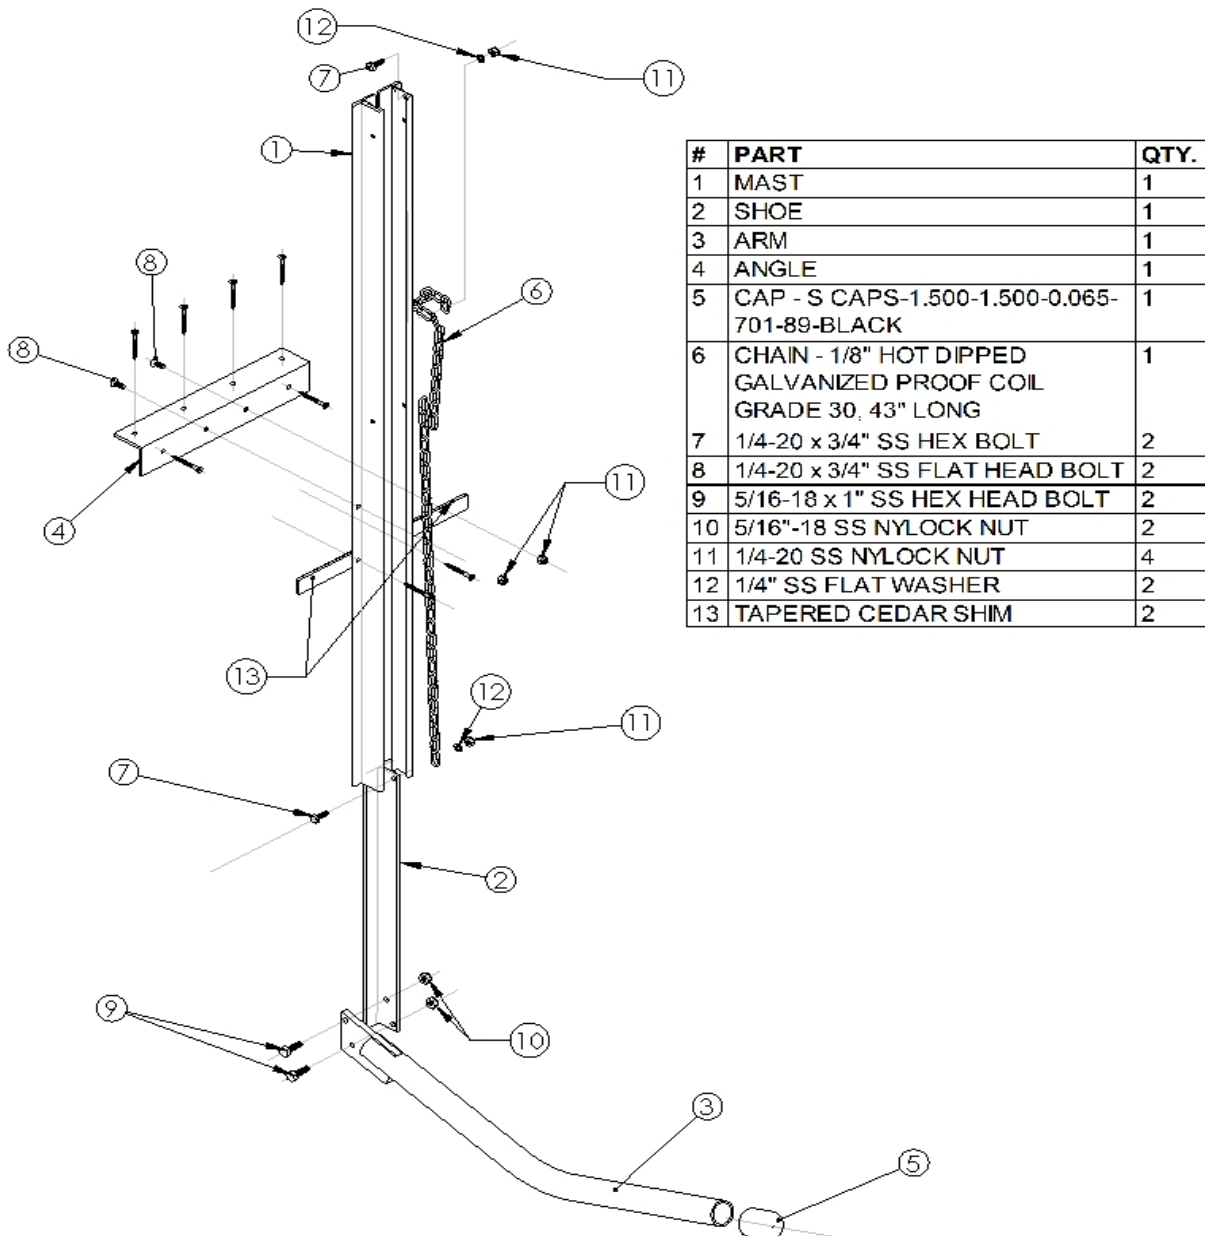

FIGURE 1
- **Parts List (Refer to Figure 1):**
- One of each of the following: mast (1), shoe (2), arm (3), angle (4), cap (5), and chain (6)
- Two of each of the following: ¼"-20 x 3/4" SS hex head bolt (7), ¼"-20 x 3/4" SS flat head bolt (8), 5/16"-18 x 1" SS hex head bolt (9), 5/16"-18 SS Nylock nut (10), ¼" SS flat washer (12) and tapered cedar shims (13)
- Four of the following: ¼"-20 SS Nylock nut (11)
- **Completing the assembly (Refer to Figure 1):**
- Using 2 flat head bolts (8) and 2 Nylock nuts (11) fasten the angle (4) onto the mast (1) through the upper set of holes in the mast flanges.
- If not already there, install the end cap (5) onto the end of the bent arm (3).
- Using 2 hex head bolts (9) and 2 Nylock nuts (10) fasten the bent arm (3) onto the bottom of the shoe (2). Note that the bolts pass through the arm plate first and then the shoe.
- Using hex head bolts (7) washers (12) and Nylock nuts (11) fasten one end of the chain (6) to the top of the mast and the other end of the chain to top of the shoe.
- Mounting details will vary depending on dock construction. The following is one example for mounting on a straight sided wooden dock (Refer to Figures 1 & 2):